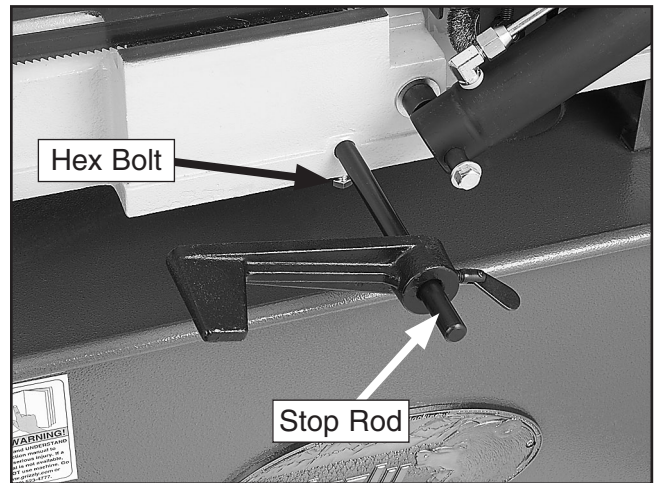

Figure 6. Installed work stop.
1. Insert the work stop rod through the hole in the base shown in **Figure 6** and lock in place with the hex bolt.